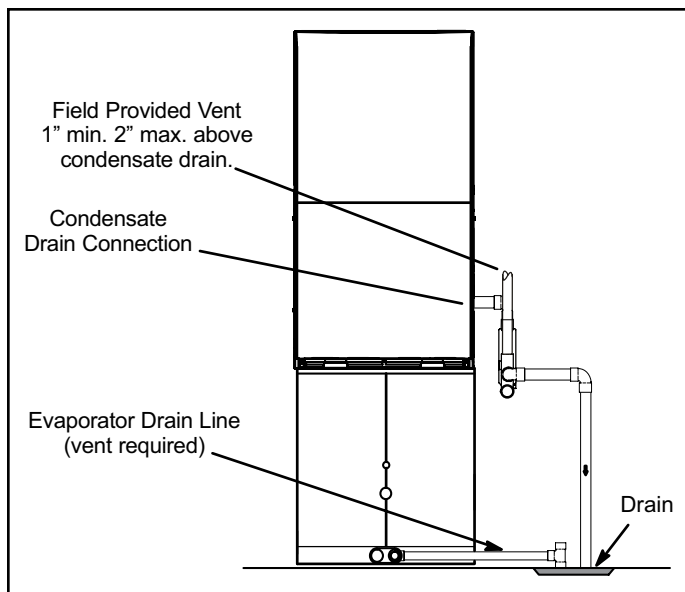

Figure 43. Evaporator Coil Using a Separate Drain
This unit is designed for either right or left side exit of condensate piping in downflow applications. Refer to Figure 43 for condensate trap locations.
2. Use a large flat head screw driver or a 1/2" drive socket extension and remove plug (Figure 43) from the cold end header box at the appropriate location on the side of the unit. Install provided 3/4 NPT street elbow fitting into cold end header box. Use Teflon tape or appropriate pipe dope.